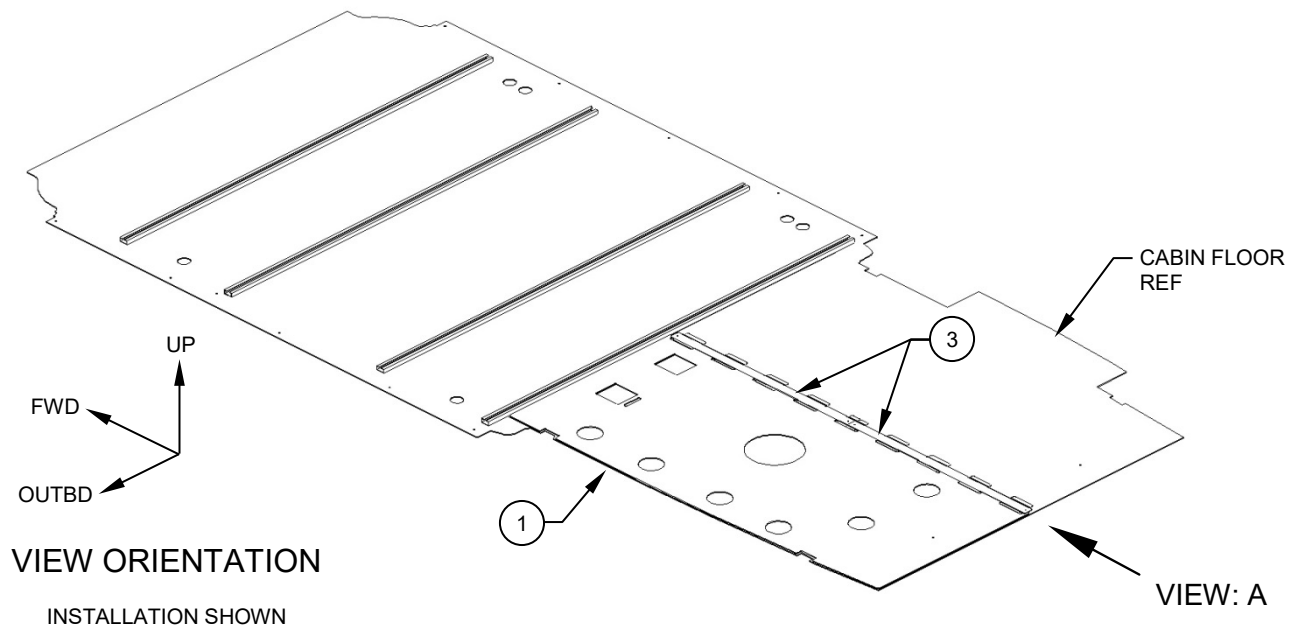

Figure 10
3. Position the LHS Panel Assy (Item 1) on the floor in its approximate position with the Velcro strips facing down as shown. Reference Figure 10.
4. Install the Retainer Strip, Assys (Item 3) by inserting the tabs into the provided slots in the panel as shown. Reference Figures 10 & 11.
5. Install the RHS Panel, Assy (Item 2) by tipping the panel on an angle and inserting the Retainer Strip, Assy (Item 3) tabs into the provided slots in the panel as shown. Install cargo door sill (Item 4) using OEM hardware. Reference Figures 10, 11 & 12.